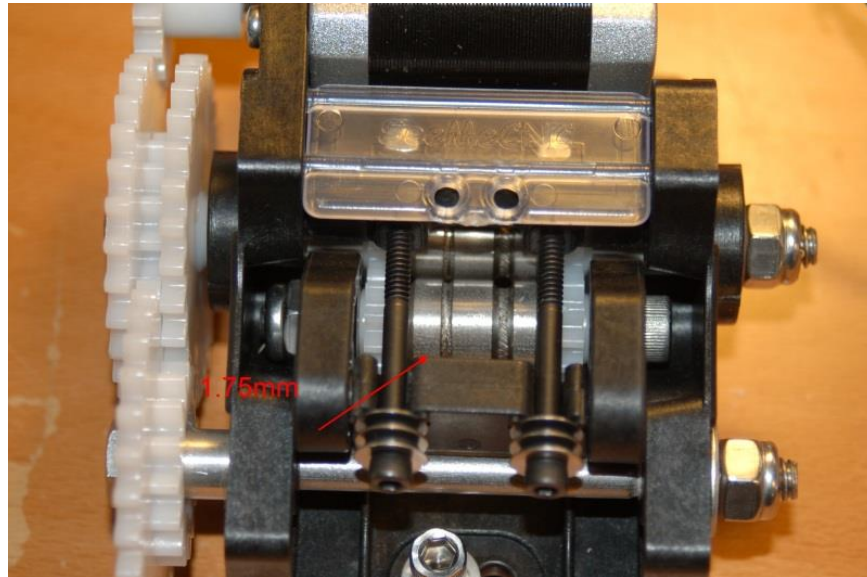

Figure 117 - Extruder with 1.75mm drive highlighted.
23.2 – Orient the extruder as shown in Fig. 117. You want to make sure the 1.75mm groove is aligned with the Bowden fitting on the extruder mount.